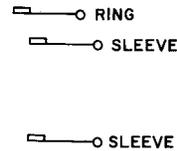

Fig. 8—382A or 383A Plug
2.08 382A and 383A: The 382A and 383A long finger plugs (Fig. 8) are arranged for ring and sleeve connections to a 141-type jack. The short finger is arranged for a sleeve connection to a 240A jack.